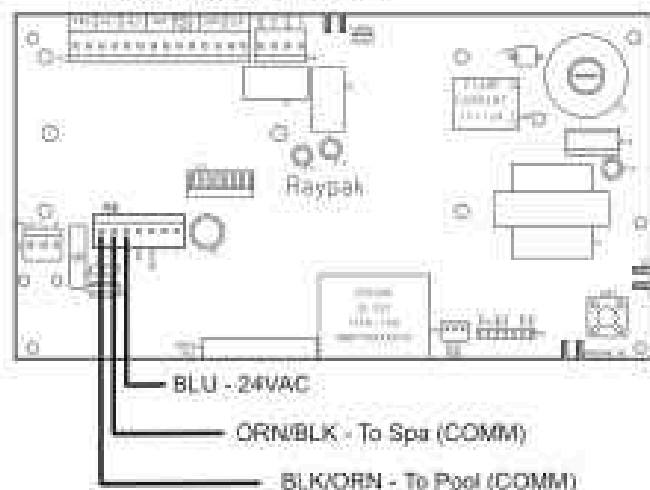

Figure 33. 3-Wire Remote Harness Installation on the P8 Connector, P-156 only
6. Install the "Remote Interface Harness" to the P8 connector and turn power "ON" to the heater. See Figure 33.